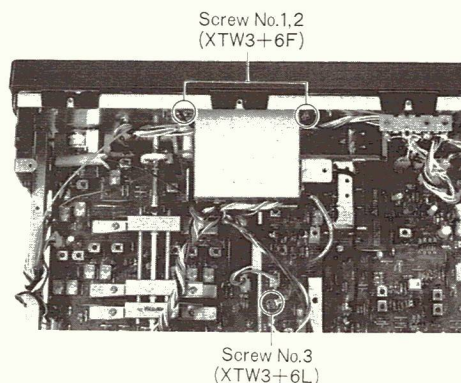

Fig. 7
3. Remove the three (3) screws (nos. 1~3) for the frequency counter, as shown in fig. 7.